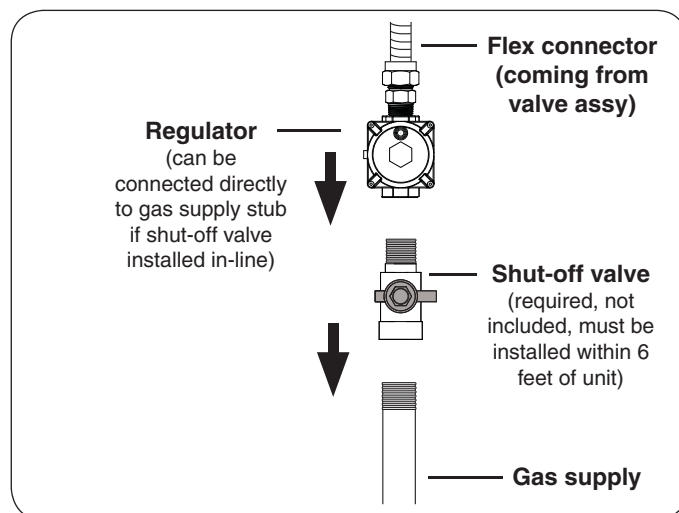

Fig. 21-2 Connecting to a gas line
- Connect the regulator (on end of flex connector) to the shut-off valve OR gas supply using a pipe joint compound resistant to all gasses (see Fig. 21-2). Tighten securely.